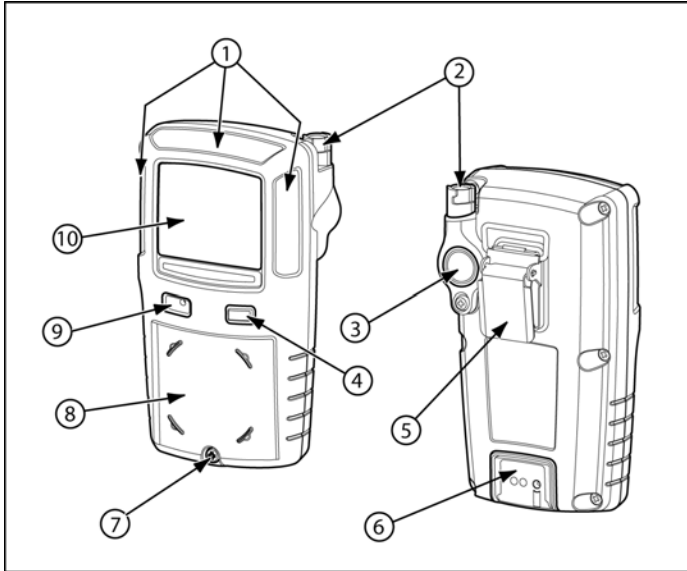

Figure 1. Parts of the GasAlertMax XT
- Figure 1, and Table 3, describe the detector's components.